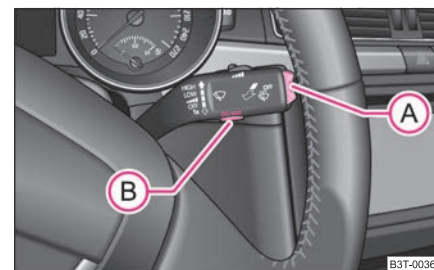
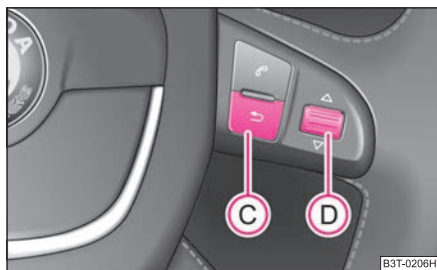
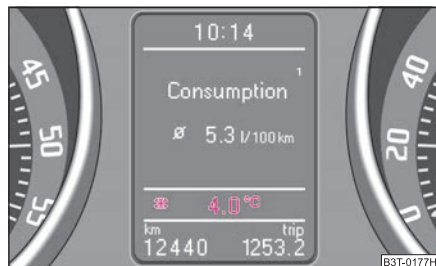

Fig. 6 Multi-functional indicator: Control elements
Fig. 7 Multi-functional indicator: Operating with the buttons on the multifunction steering wheel
Fig. 8 The outside temperature
Switching over the memory with the help of the button **(B)** ⇒ fig. 6 on the wind-screen wiper lever or with the help of the button **(D)** on the multifunction steering wheel* ⇒ page 16.
The rocker switch **(A)** and the button **(B)** are located in the grip of the window wiper lever ⇒ fig. 6.
⇒ fig. 7. ■
⇒ fig. 7.
If the outside temperature drops below +4 °C, a snowflake symbol (warning signal for ice on the road) appears before the temperature indicator ⇒ fig. 8 and a warning signal sounds. After pressing the rocker switch (A) at the windshield wiper lever ⇒ page 15, fig. 6 or the button (C) at the multifunction steering wheel ⇒ page 16, fig. 7, the function shown last is indicated.
The driving time which has elapsed since the memory was last erased, appears in the display. If you wish to measure the driving time as of a particular time, you must set the memory to zero at this moment in time by pressing the button (B) on the windshield wiper lever ⇒ page 15, fig. 6 or the handwheel (D) on the multifunction steering wheel* ⇒ page 16, fig. 7 for longer than 1 second.
If you wish to determine the average fuel consumption over a certain period of time you must set the memory to zero at the start of the measurement using the button (B) on the windshield wiper lever ⇒ page 15, fig. 6 or with the handwheel (D) on the multifunction steering wheel* ⇒ page 16, fig. 7. A zero appears in the display for the first 100 m you drive after erasing the memory.
The distance driven since the memory was last erased appears in the display ⇒ page 15. If you wish to measure the distance driven of a particular time, you must set the memory to zero at this moment in time by pressing the button **(B)** on the windshield wiper lever ⇒ page 15, fig. 6 or the handwheel **(D)** on the multifunction steering wheel* ⇒ page 16, fig. 7.
The average speed since the memory was last erased is shown in the display in km/hour ⇒ page 15. If you wish to determine the average vehicle speed over a certain period of time you must set the memory to zero at the start of the measurement using the button **(B)** on the windshield wiper lever ⇒ page 15, fig. 6 or with the handwheel **(D)** on the multifunction steering wheel* ⇒ page 16, fig. 7.
- Press the button **(B)** on the windshield wiper lever ⇒ fig. 10 or the handwheel **(D)** on the multifunction steering wheel* ⇒ page 16, fig. 7. **Speed warning 50 km/h (warning at 50 km/h)** is displayed on the information display* ⇒ fig. 9. ►
If you now exceed the set speed limit, **Speed 50 km/h exceeded (speed 50 km/h exceeded)** will be shown on the display. This message is indicated for as long as the speed is reduced below the set limit or switch off the message by pressing the button **(B)** on the windshield wiper lever $\Rightarrow$ page 18, fig. 10 or the handwheel **(D)** on the multifunction steering wheel* $\Rightarrow$ page 16, fig. 7.